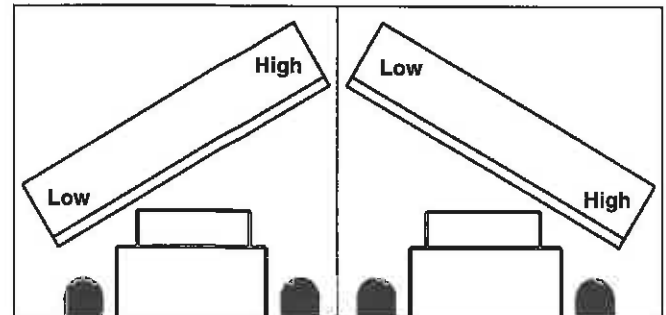

figure 31
- figure 31, turn the adjustment screw out.
- figure 31, loosen hardware that attaches the swing assembly to the brush head assembly; lower the right-hand side of the brush head until both sides are an equal distance above the ground. Tighten the hardware.
- figure 31, loosen hardware that attaches the swing assembly to the brush head assembly; lower the right-hand side of the brush head until both sides are an equal distance above the
- figure 31, raise the adjustable hitch arm.